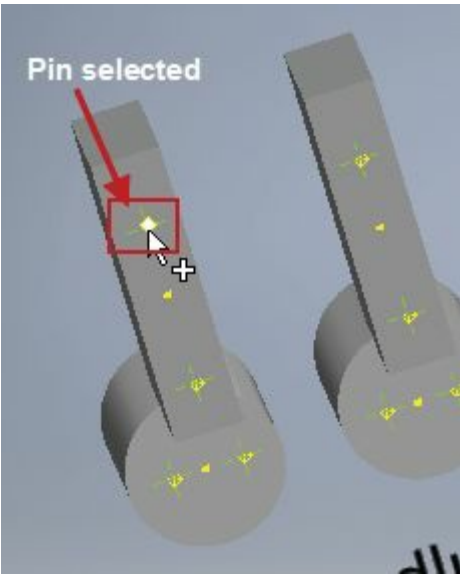

Figure-40. First pin selected
- Select the first pin to be connected by wire; refer to Figure-40.